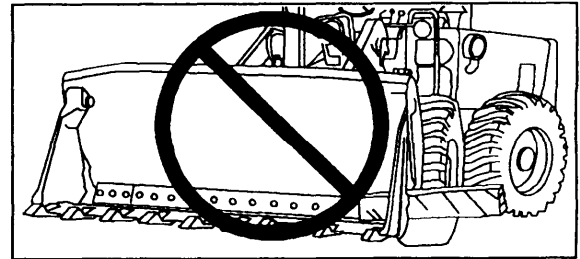

Figure 9-31.—Clamping an object on only one side of the clamshell.
**Do NOT** clamp objects on only one side of the clamshell, because this causes uneven stresses and may twist the clamshell out of alignment (fig. 9-31).